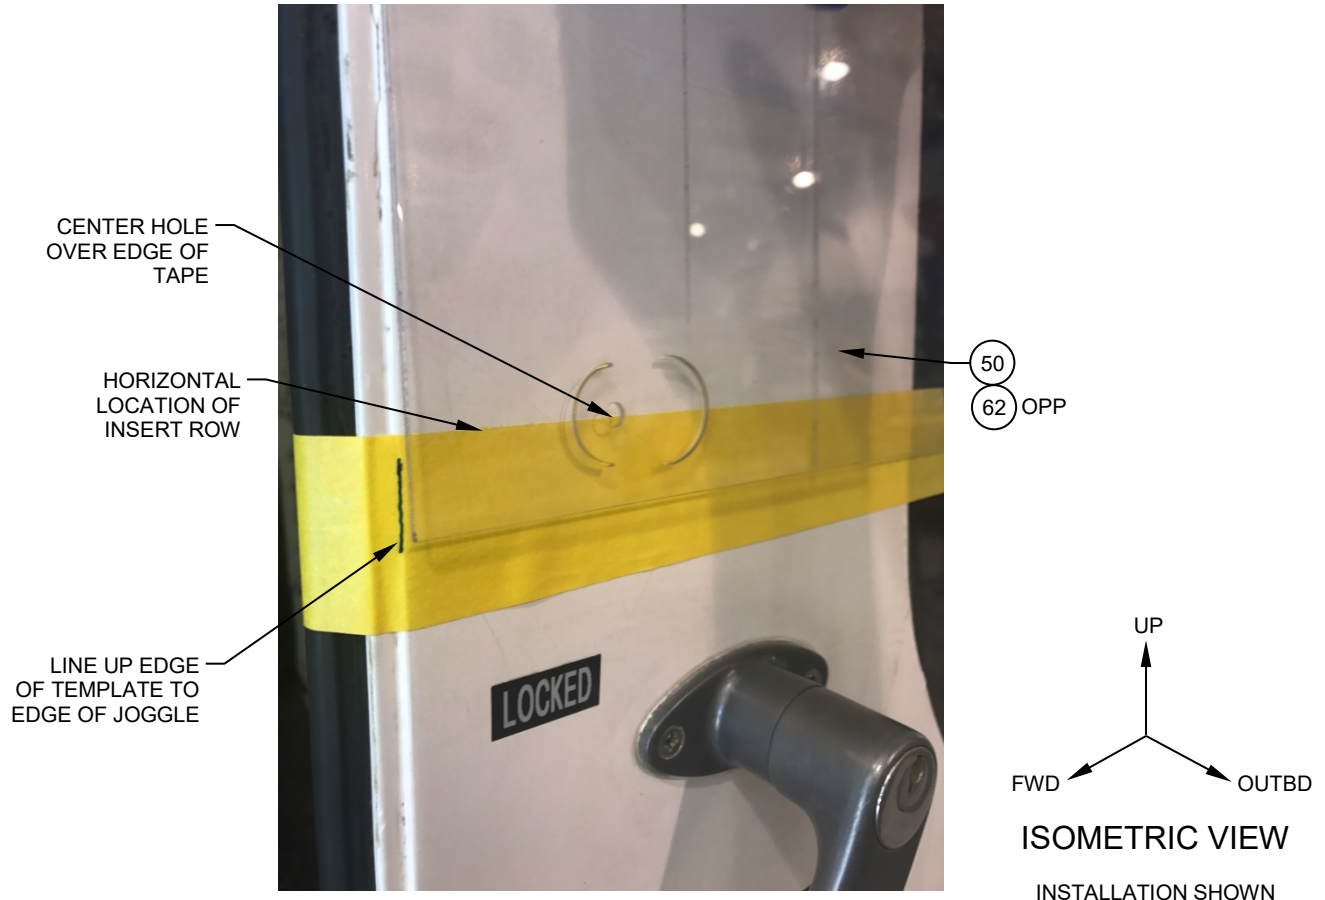

Figure 25
3. Orient the center of the lower hole on the Template, Detail (Items 50 & 62 OPP), with the edge of the tape. Orient the forward edge of the Template, Detail with the forward edge of the joggle on the door. Reference Figure 25.